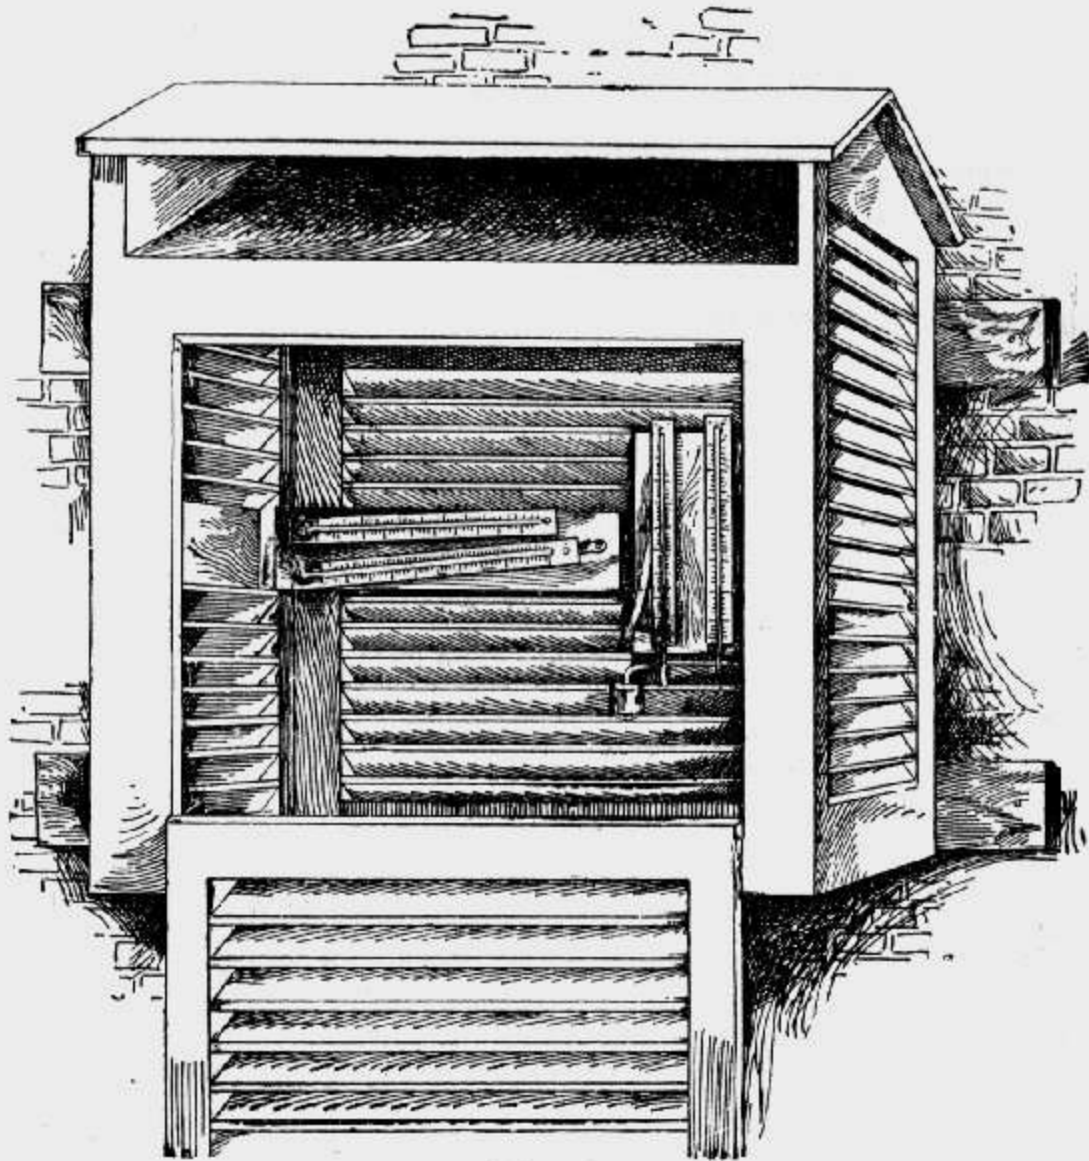

Fig. 31.
The latest pattern Weather Bureau Instrument Shelter (small size) is illustrated above, with door open and a complete set of thermometers in proper position. This shelter is sufficiently large to allow a good circulation of air, and will hold a thermograph (see page 27) in addition to the four thermometers shown. Wherever it is possible to do so this shelter should be placed on top of a suitable post, or posts, set in the ground very securely and sawed off square at the top for the shelter to rest upon, and so that the bottom of shelter will be *not less than 4 feet* from the ground, with *door on north side*. The shelter must be fastened rigidly to the top of the post, or posts, and for this purpose it may be necessary to attach boards or a rough frame, to which the shelter itself can be secured by suitable screws through bottom or ends. The best location for this sod, or ground, exposure for shelter, is near the center of the largest clear space available, and the location should, of course, be conveniently accessible for the observer. This manner of exposing the shelter gives much better results than that described below, as the instruments are not then so much affected by the close proximity of buildings, etc. When this exposure is not obtainable, however, the shelter will be attached to the side of a building, at such height that the thermometers, when in position, shall be on a level with the observer's eye, which will enable him to take accurate readings. Suitable wood screws are placed through frame at back, the wall or side of building being first prepared therefor by having two (2) pieces of 2 x 4 scantling securely nailed thereto, as indicated in the illustration (Fig. 31). It is necessary to have these pieces of scantling at least 2 inches thick, in order to allow a free air space all around the shelter.